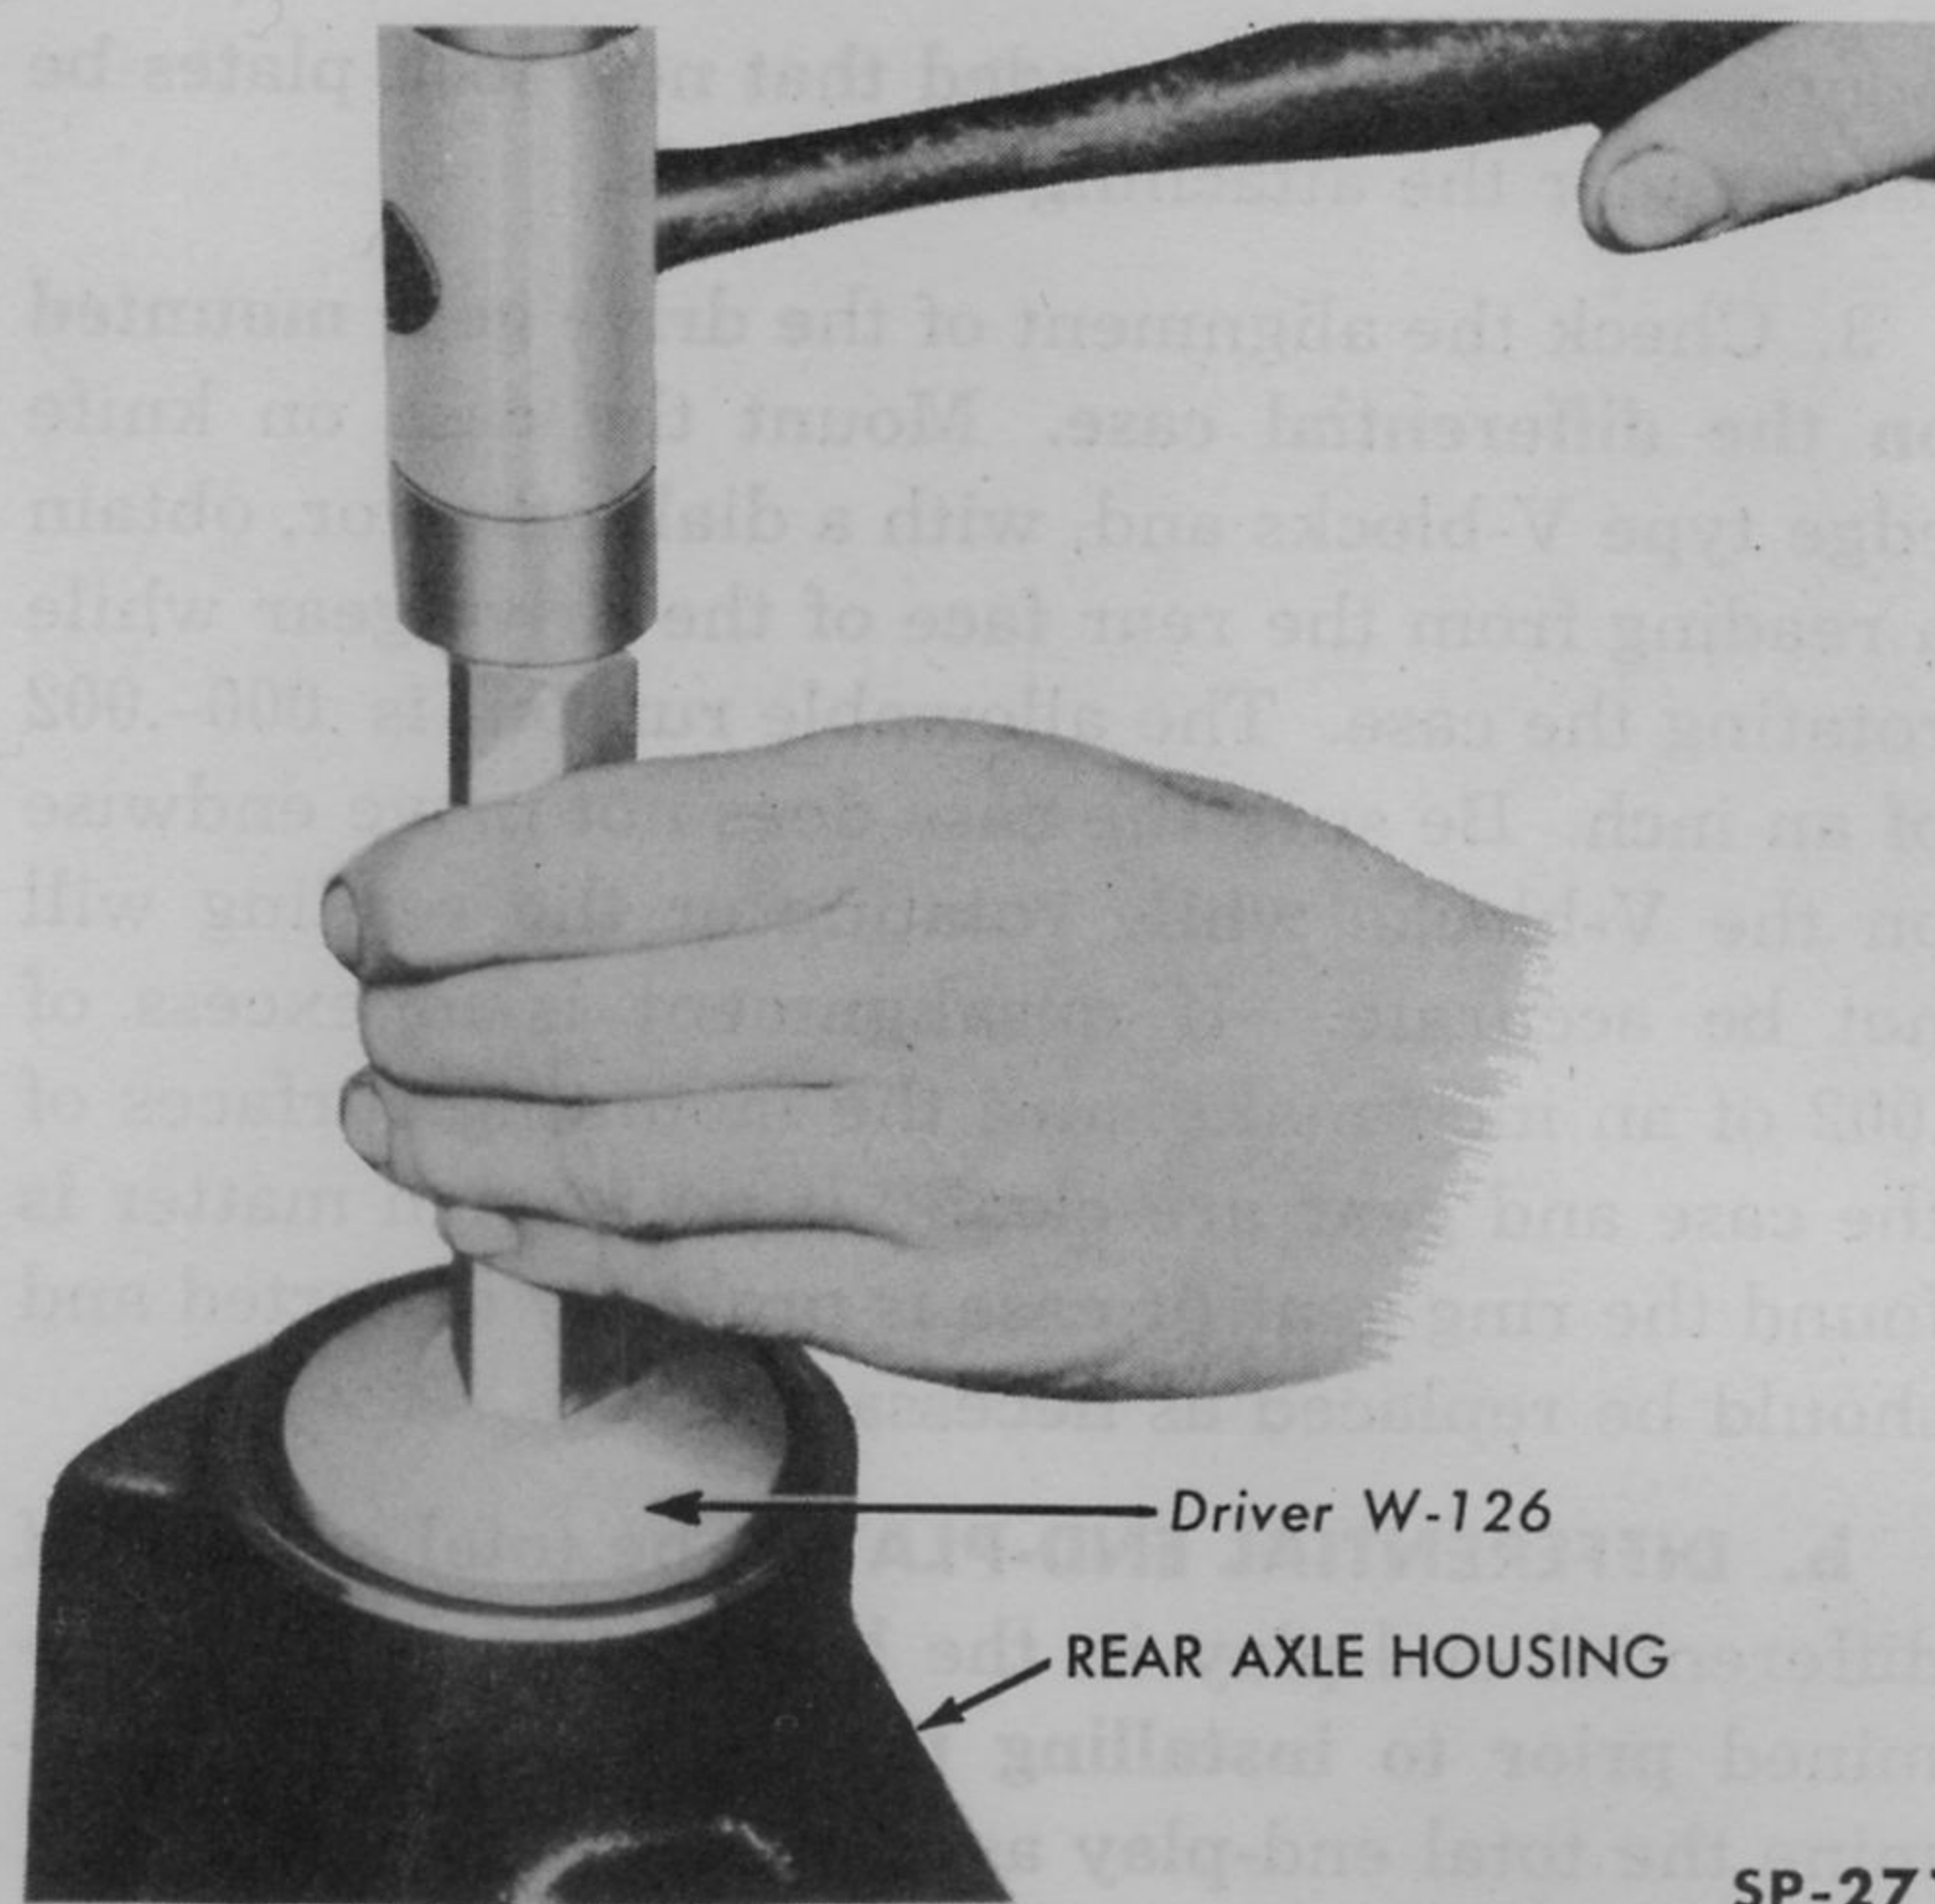

Fig. 270—Installing Pinion Front Bearing Cup
2. Install the pinion front bearing cup in the axle housing, using Driver W-126 (Fig. 270).